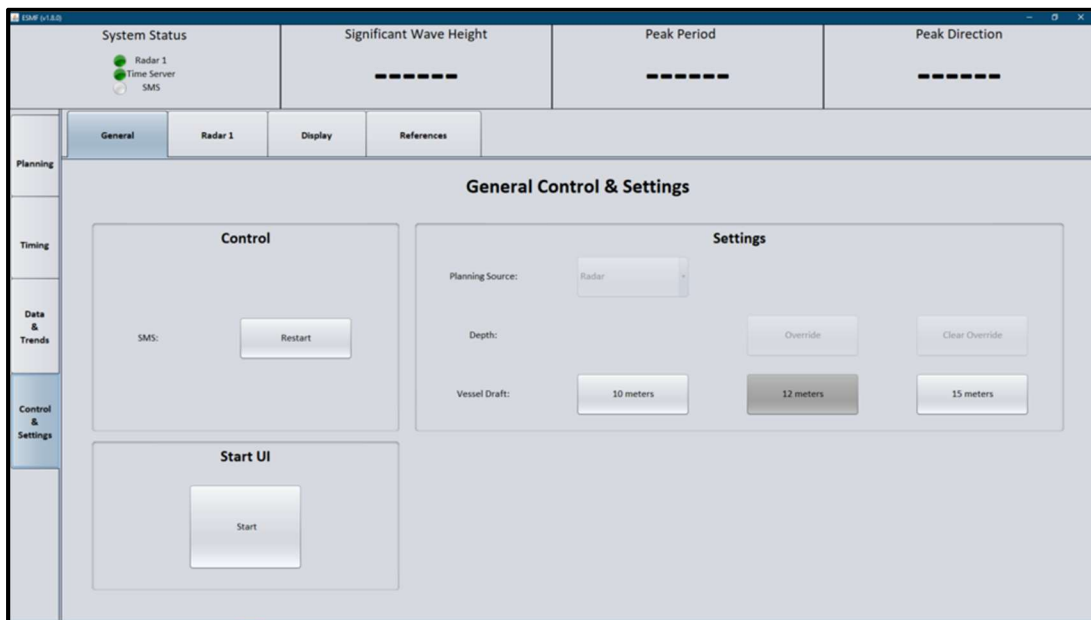

Figure 2: Initial Display - General Tab
3. Select the FutureWaves™ icon on the Windows Desktop and double click or press enter to start the FutureWaves™ Graphical User Interface (GUI). Once the GUI starts, the display should appear as shown in Figure 2.